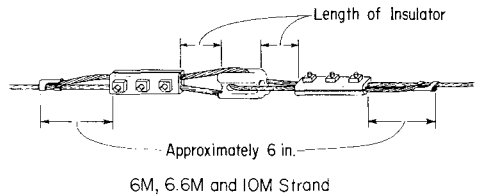

Fig. 9—Installing Strain Insulator in 6M, 6.6M and 10M Strand
- (c) **6000, 6600, and 10,000 Pound Strand:** Use one 3-bolt guy clamp, B strand grip or strandwise on each side of the insulator. (See Fig. 9) Tightening the bolts on three-bolt guy clamps should preferably be done with the clamps held in a vise.